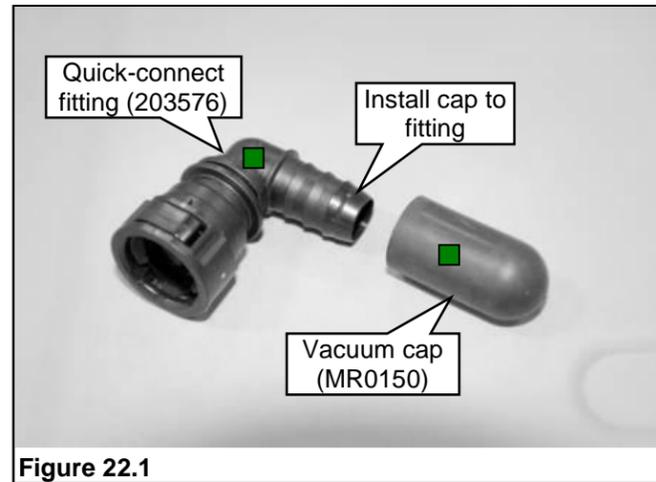

Figure 22.1
1. Preassemble quick-connect fitting and vacuum cap found in hardware kit P12EB-VAPOR-A. **Figure 22.1.**